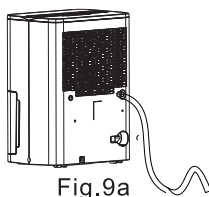
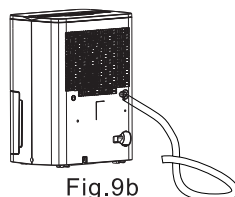

Fig.9a
Fig.9b
- Be sure to run the water hose sloping downward and let the water to flow out smoothly. Do not install the water hose as shown Fig.9a and Fig.9b.